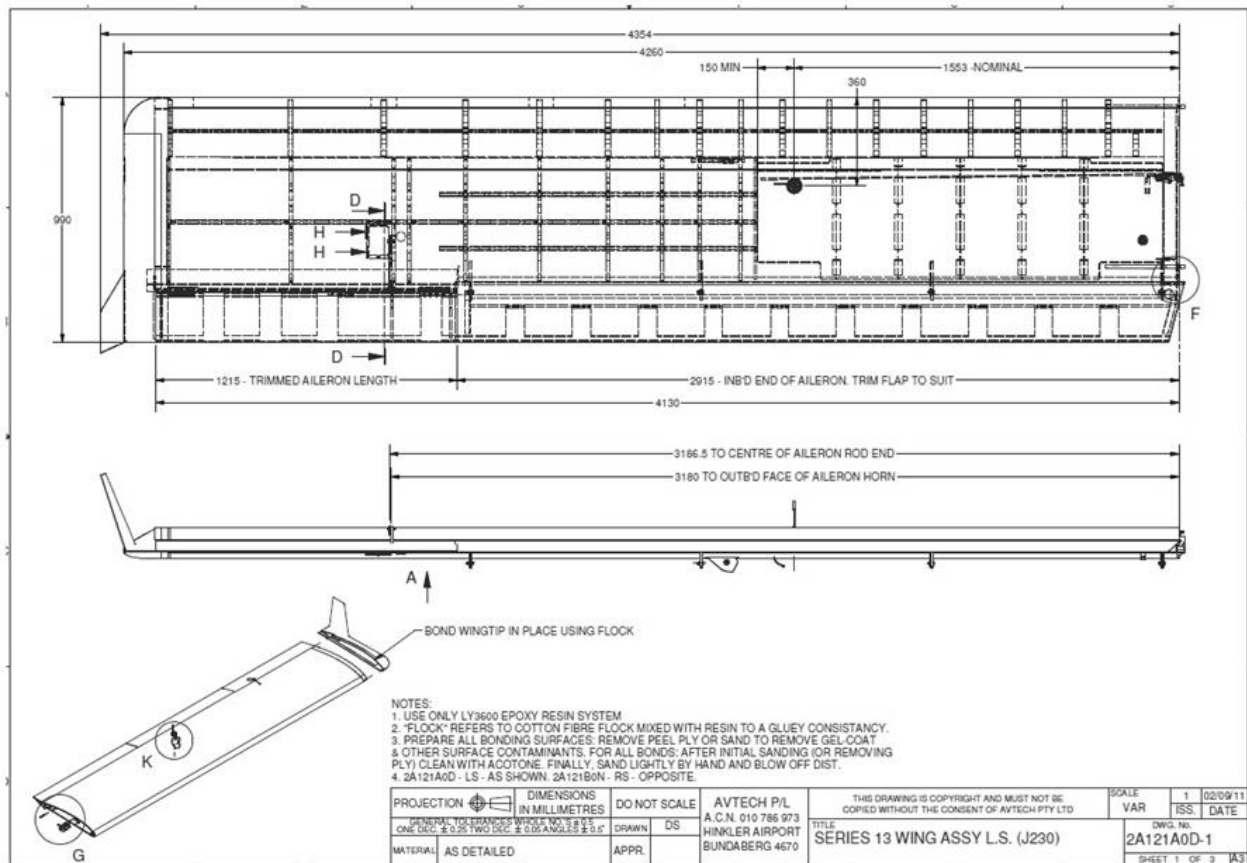
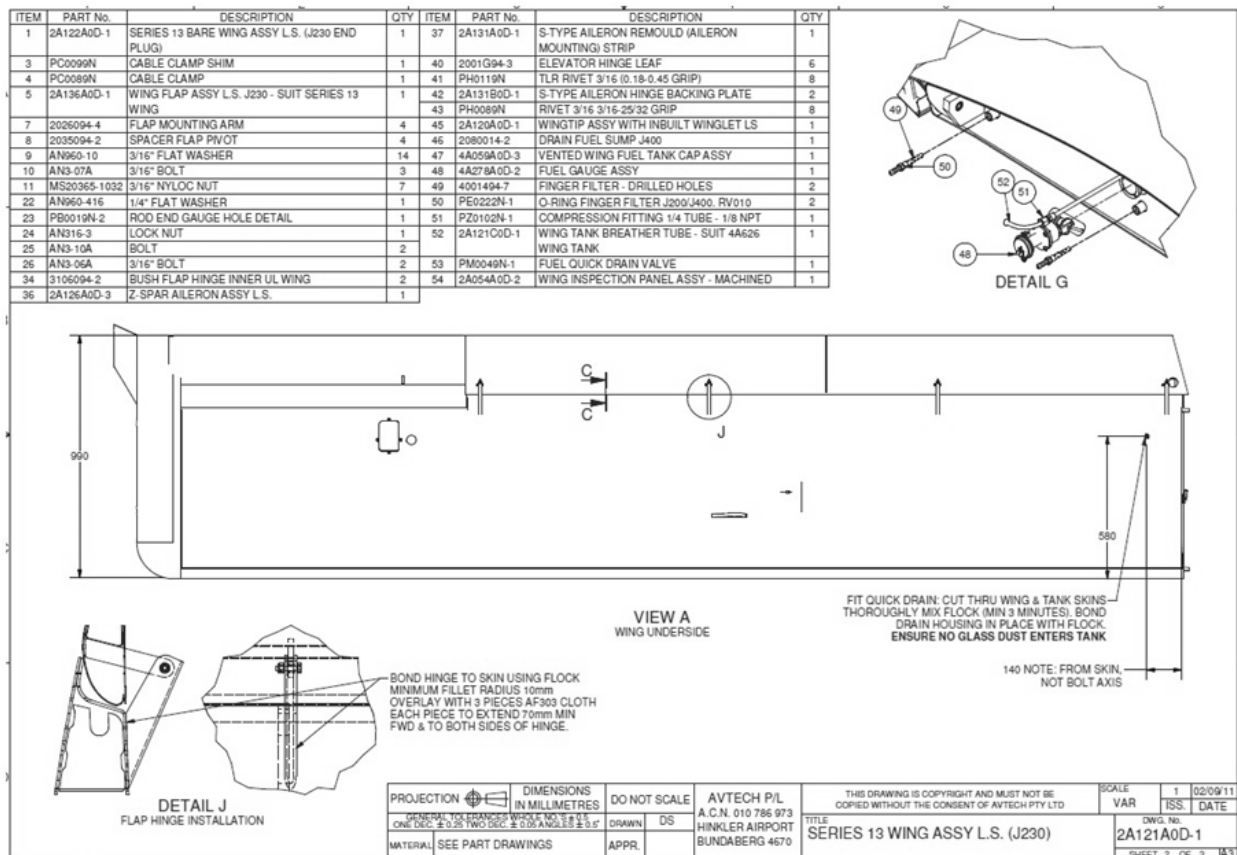
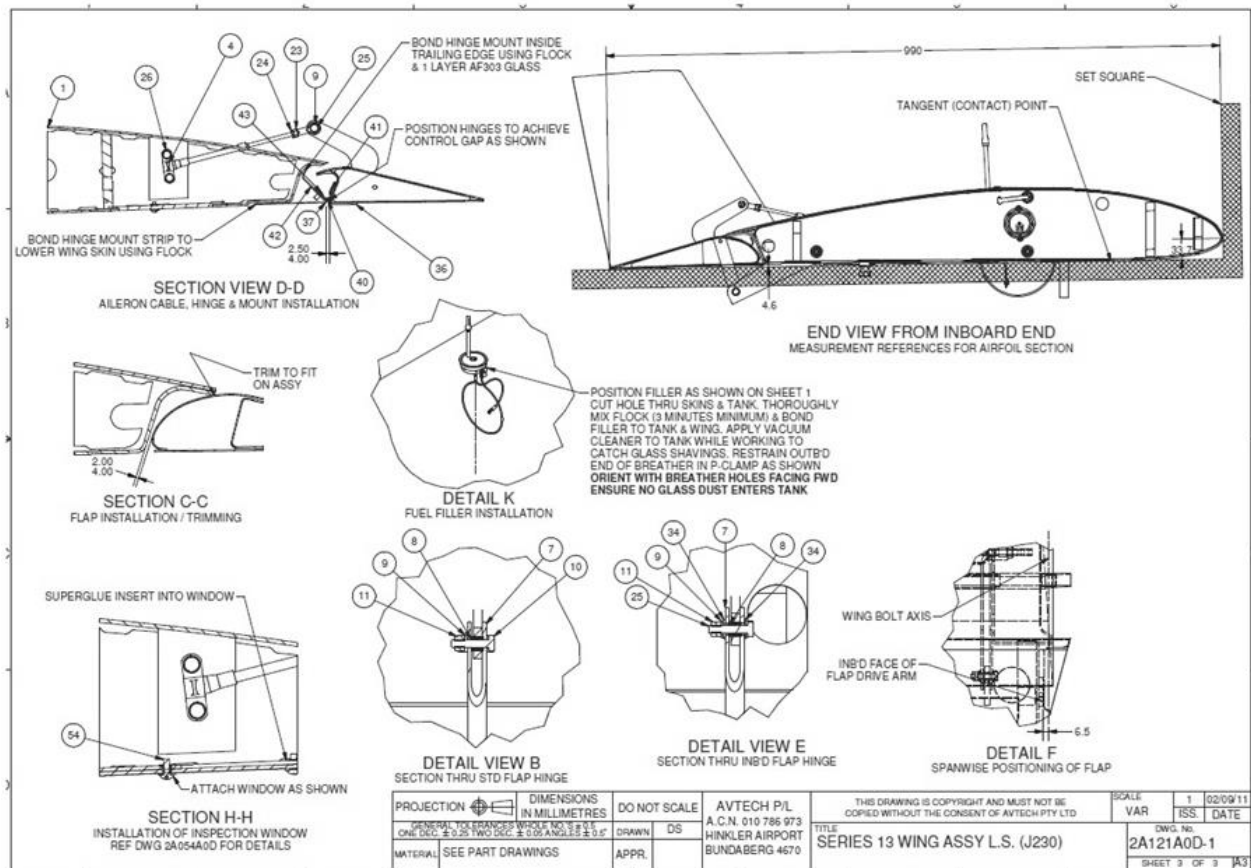

Figure 64 – J230 Wing Assembly Sheet 1, Ser 13 (J230/J430)
Figure 65 – J230 Wing Assembly Sheet 2, Ser 13 (J230/J430)
Figure 66 – J230 Wing Assembly Sheet 3, Ser 13 (J230/J430)
- The installation of the control surfaces, control cables etc for the J230 wing uses many of the same parts, materials and methods as the J160 detailed above. Refer to Figure 64, Figure 65 and Figure 66 for details.